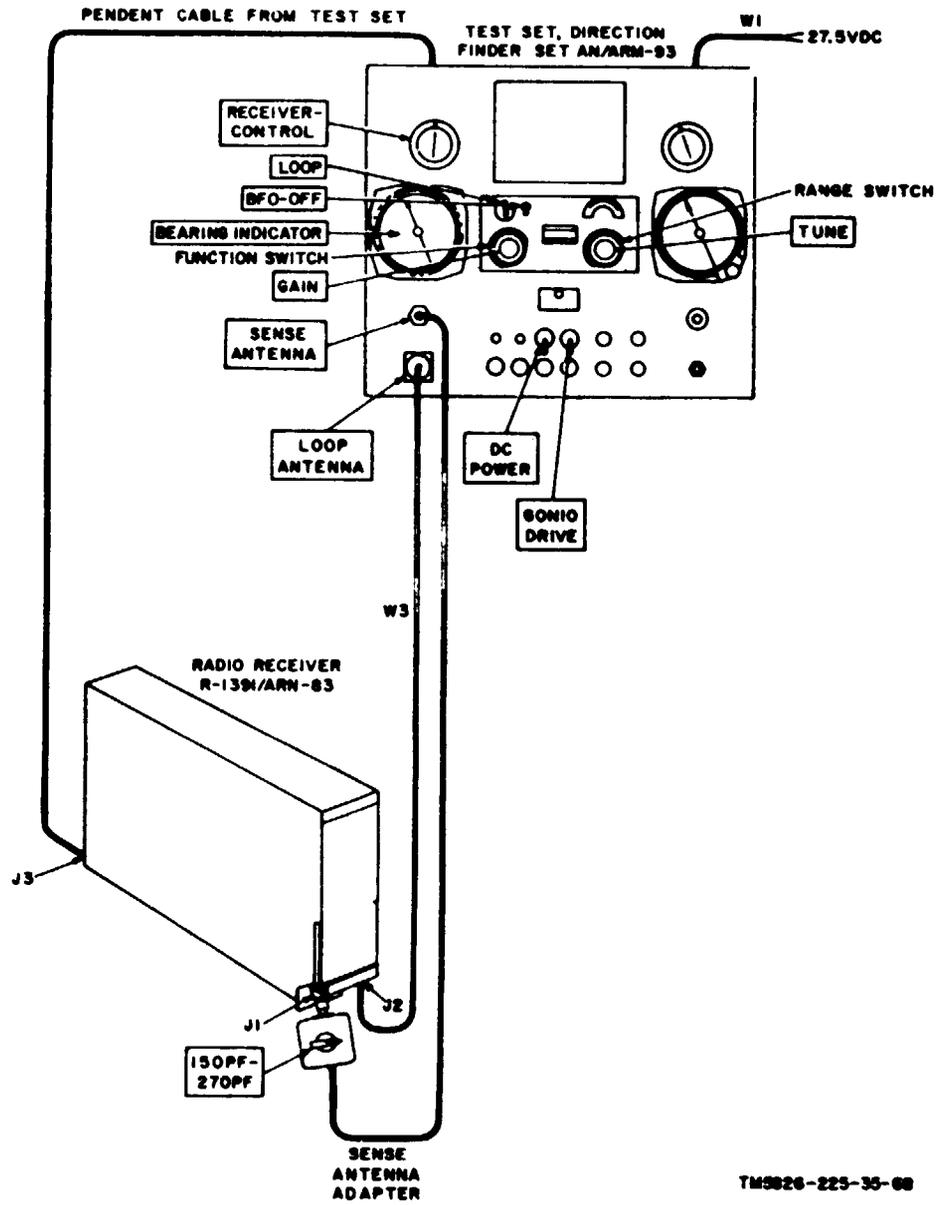

Figure 4-5. Receiver bearing indicator test.
- (1) Test Set, Direction Finder Set AN/ARM-93.
- (2) Stopwatch.
*b. Test Connections and Conditions.* Connect the test equipment as shown in figure 4-5.